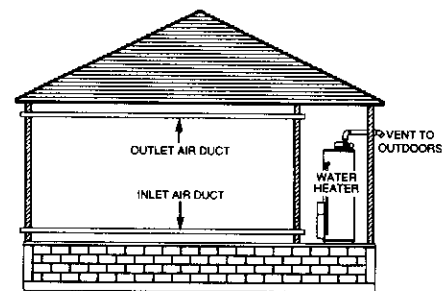

Figure 8
3. When communicating with the outdoors through horizontal ducts, each opening shall have a minimum free area of 1 square inch per 2,000 BTU per hour of total input rating of all equipment in the enclosure. (See Figure 8.)
4. When ducts are used, they shall be of the same cross-sectional area as the free area of the openings to which they connect. The minimum short side dimension of rectangular air ducts shall not be less than 3 inches. (See Figure 8.)